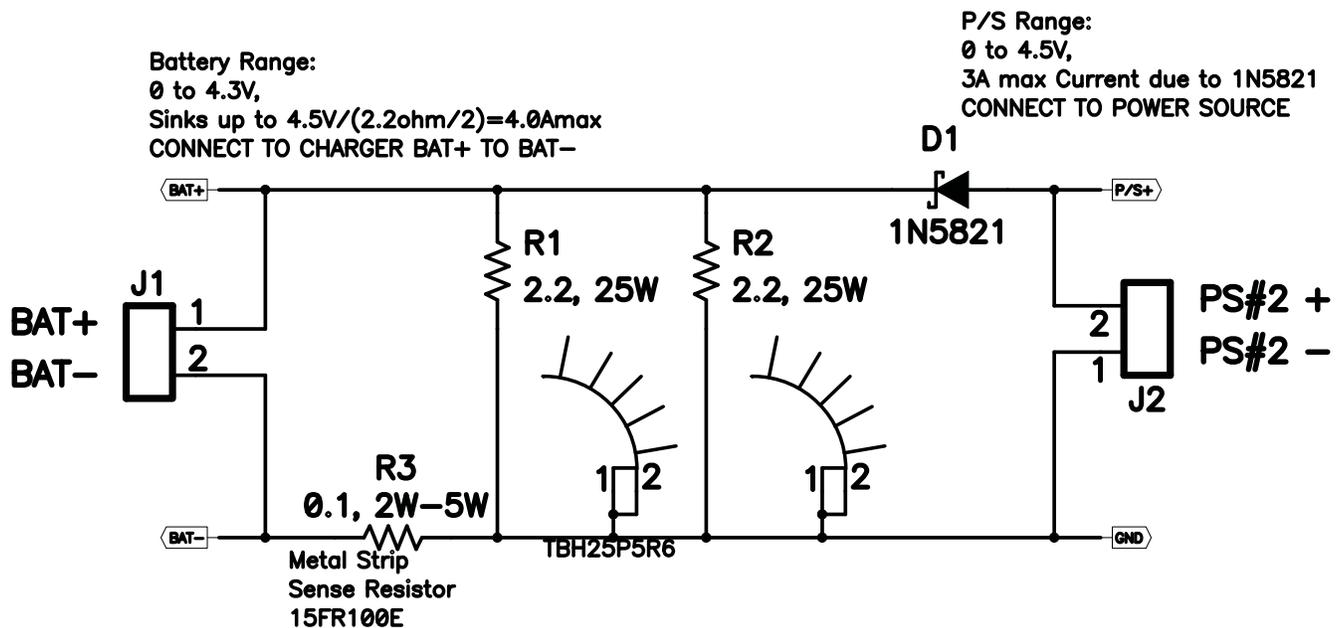
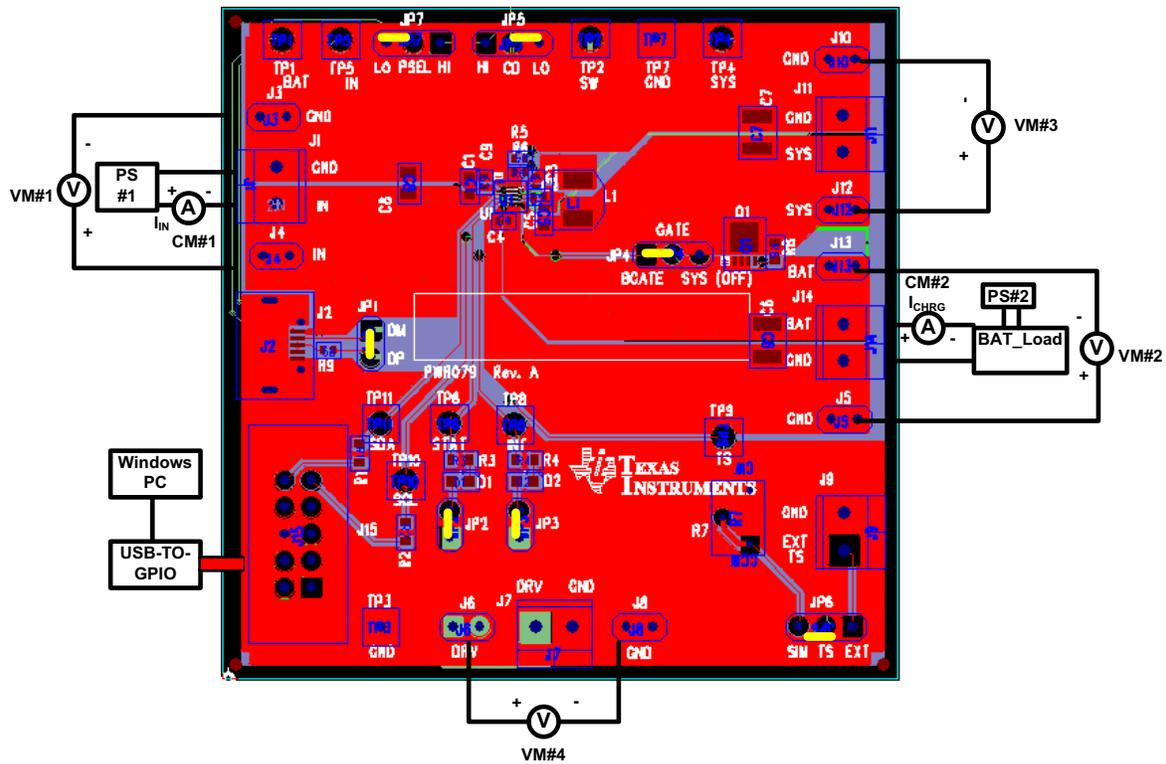

Figure 2. BAT_Load (PR1010) Schematic
Figure 4. Original Test Setup for bq24260, bq24261, bq24262EVM (bq2426xEVM-079)
2. If not using a battery as the load, then power supply #2 (PS #2) capable of supplying up to 5 V at 5 A is required to power the circuit shown in Figure 2.
Testing with an actual battery is the best way to verify operation in the system. If a battery is not available, then a circuit similar to the one shown in Figure 2 can simulate a battery when connected to a power supply.
9. After the preceding steps have been performed, the test setup for bq2426xEVM-079 is configured as is shown in Figure 4.
2. Ensure that the shunts are installed as highlighted in yellow in Figure 4.
3. Connect the output of Power Supply #1 (PS #1), with at least a 4-A current limit setting, in series with current meter (multimeter) #1 (CM #1) to J1 as shown in Figure 4.
5. Connect either a real single cell lithium ion battery or battery simulator across J14 or J13/J5 (BAT, GND) with current meter #2 in series as shown in Figure 4. If using a battery simulator like the one shown in Figure 2 and referred to as BAT_LOAD in Figure 4, configure power supply #2 (PS#2) with at least 4-A current limit for 3.4 V.